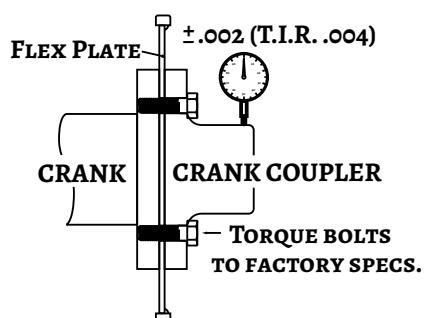

FIGURE 2
Proper installation of the crank coupler to the crank is important since crank coupler run out can cause drive sleeve run out in excess of .004 T.I.R. maximum (Figure 2).
After determining coupler bolts are correct length, torque the crank coupler bolts evenly to factory specifications (Figure 2).
**NOTE** flange protruding from face of O.E.M. flex plate. Check that the protrusion on the flex plate does not keep crank coupler from seating against face of flex plate. If interference occurs, machine away enough flex plate protrusion to eliminate this problem. With crank coupler installed and torqued to factory specs, indicate as shown in Figure 2.